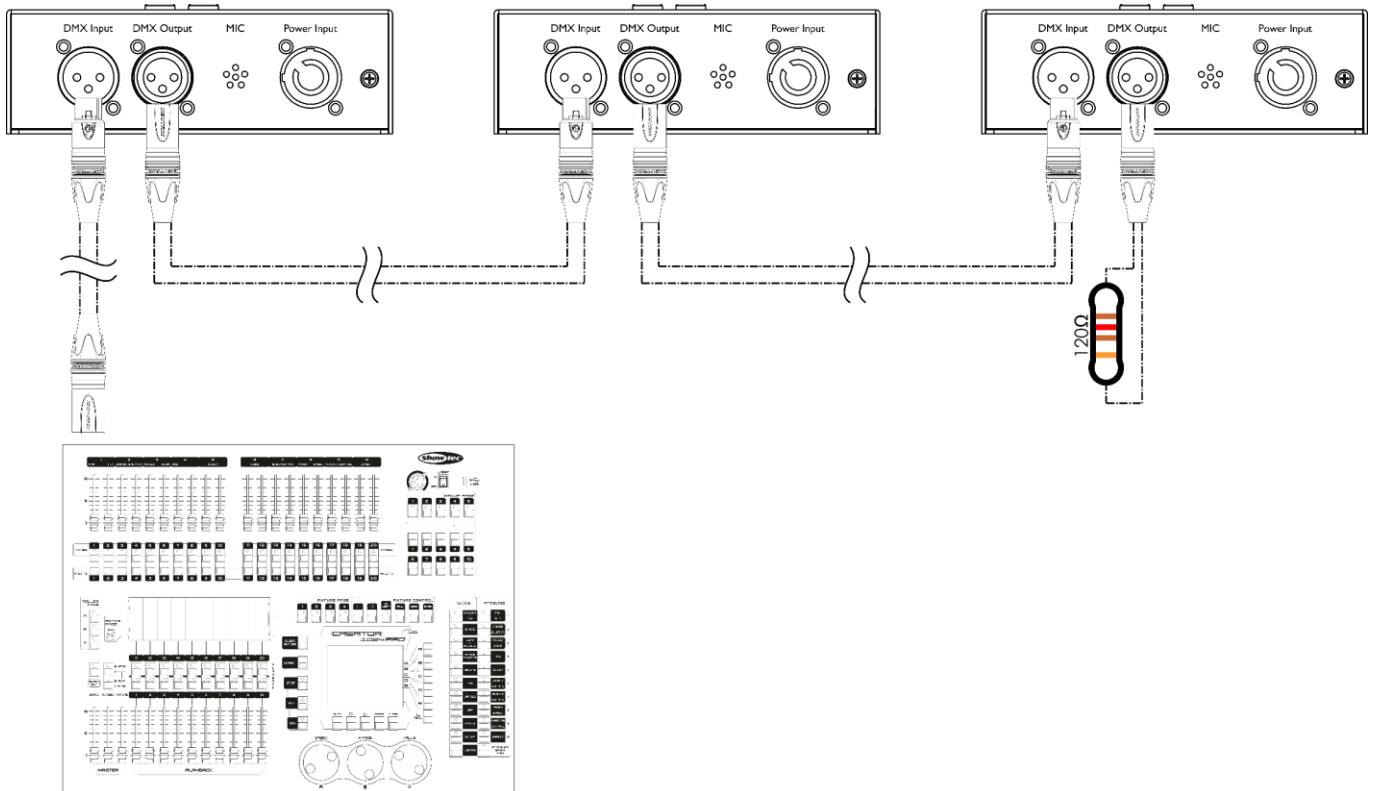

Fig. 04
- 04) Link the units as shown in Fig. 04. Connect the first unit's DMX "out" socket with the second unit's "in" socket, using a DMX signal cable. Repeat this process to link the second, third, and fourth units.